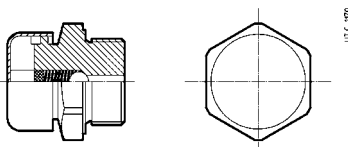

Fig. 8.1.1
**⚠ Make sure that for gear reducers and gearmotors size  $\geq 100$ , the filler plug is metallic and equipped with filter and valve** (symbol ; see fig. 8.1.1). When these gear reducers are required filled with oil (non-standard design) the **filler plug** is not mounted but **supplied separately**; the responsible for installation will take care of the right assembly (see ch. 15 ... 20 or eventual scheme SPT attached) replacing a closed plug.